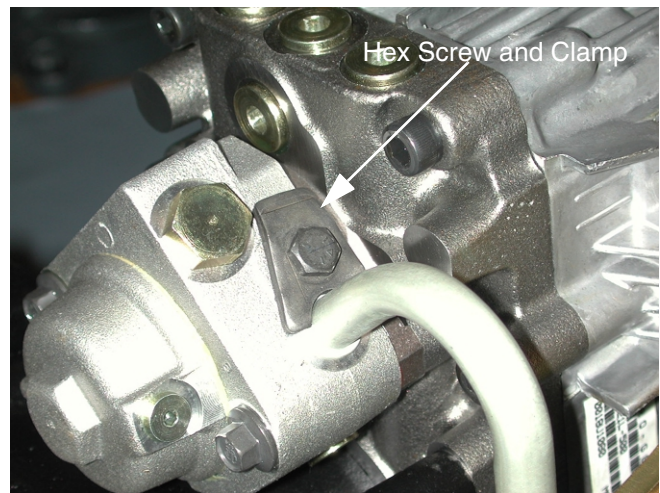

Figure 4
7. Remove the hex screw and clamp securing the hydraulic pickup tube to the charge pump using a 7/16" socket. See Figure 4.